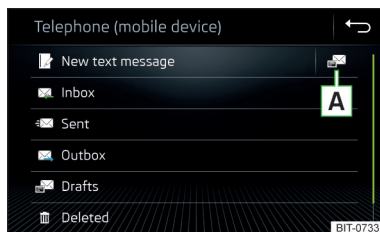

Fig. 196
- ▶ In the *Telephone* main menu, tap on the function surface and the main menu for text messages will be displayed » Fig. 196.
- In the main menu of the text messages, tap on function surface  » Fig. 196 on page 166.